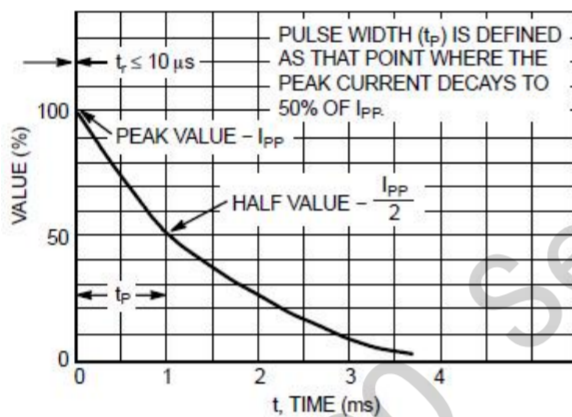
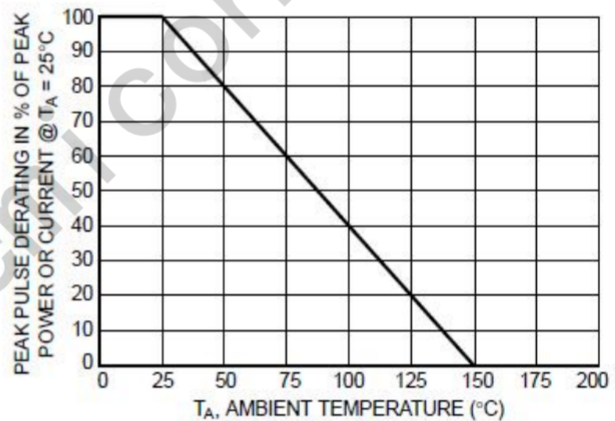

Figure 5. Pulse Waveform
Figure 6. Pulse Derating Curve
Peak Power-24 or 40Watts@1.0ms(Unidirectional), per Figure 5 Waveform
1. Non-repetitive current pulse per Figure 5 and derate above $T_A = 25^\circ\text{C}$ per Figure 6.
3. Surge current waveform per Figure 5 and derate per Figure6.